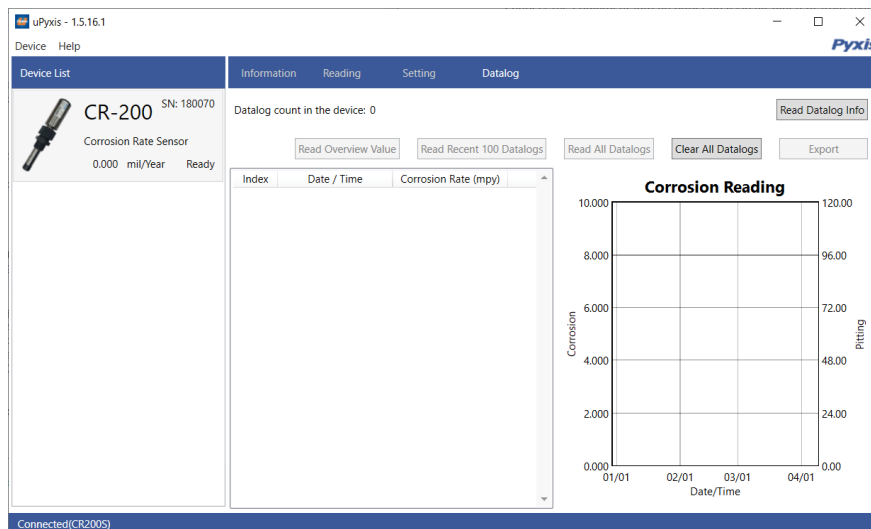

Figure 29.
3. On **uPyxis®** Desktop App, click Device → **Connect via USB-Bluetooth** (Figure 29).
4. If the connection is successful, the CR Series and its Serial Number (SN) will be displayed in the left pane of the **uPyxis®** window.